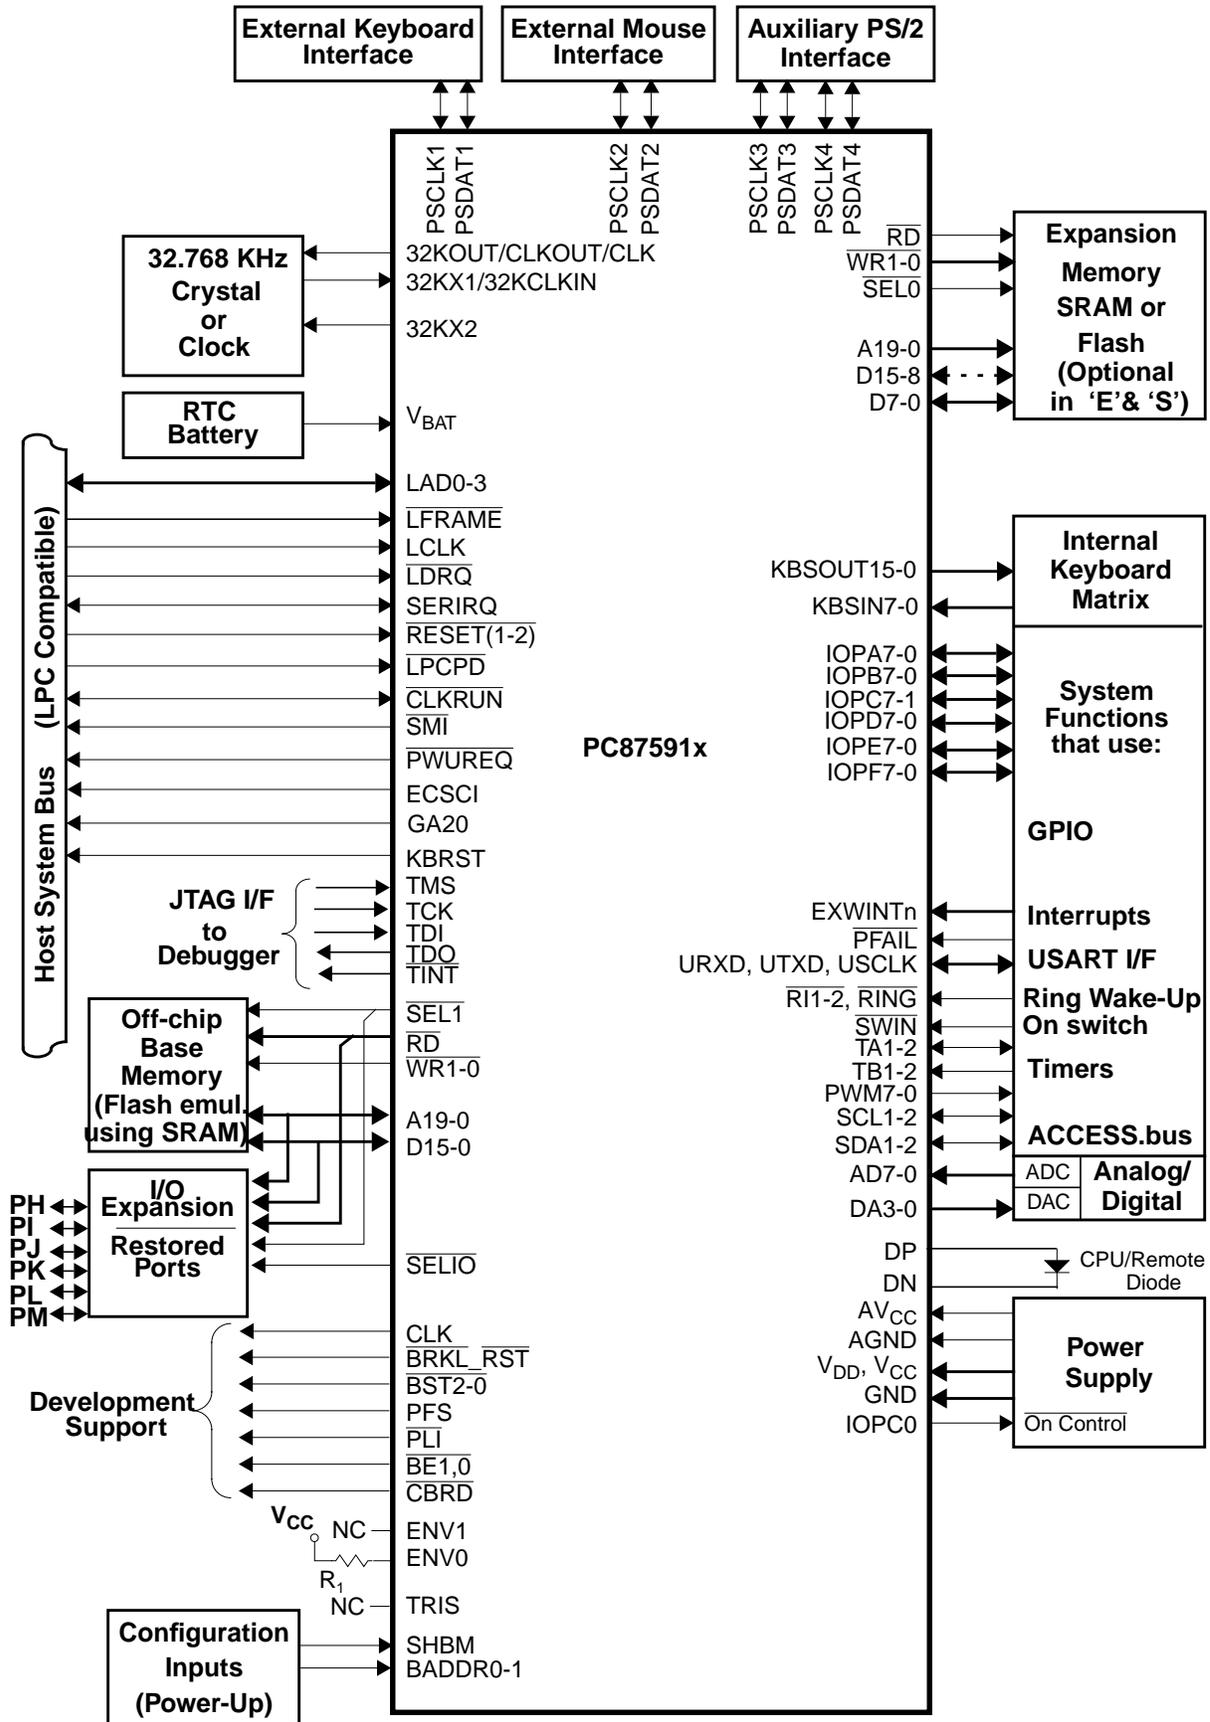

Figure 4. DEV Environment PC87591x System Connection Diagram,176-Pin Package
See Figure 4 on page 32 for a system example in DEV environment. In this environment, the ENV0 strap pin needs an external pull-up resistor and the ENV1 and TRIS pins are left unconnected. If the flash Contents Protect bit in the protection word is cleared (0), the PC87591x remains reset until the bit is set; see Section 4.16.6 on page 226.